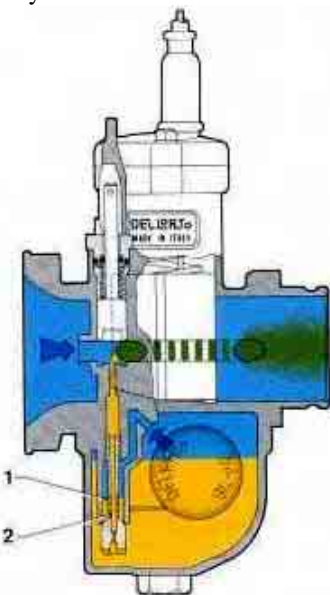

fig.16
Figure 16 shows the mixture ratio depends entirely on the variety of drillings in the emulsion tube, because air passing through holes (2) draws up fuel which is standing in the jet well (1). In this period, the mixture strength is not determined by the starter jet size but only by the amount of fuel contained in the well above the holes located below the float-chamber fuel level.